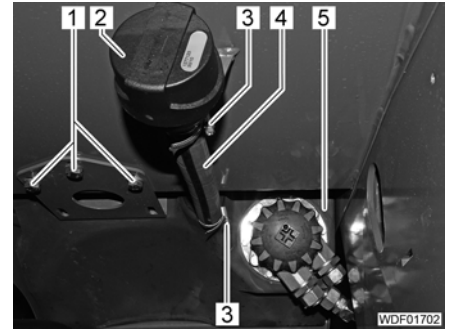

Fig. 331 Removal of the return filter
- Slacken 2 hose clamps (Fig. 331,3).
- Remove hydraulic hose (Fig. 331,4) from the hydraulic oil tank (Fig. 331,5) and from the ventilation filter (Fig. 331,2).
- Slacken 3 bolts (Fig. 331,1).
- Pull out hydraulic oil tank (Fig. 331,5) somewhat from the back.
- Push hydraulic oil tank (Fig. 331,5) to the front and align.
- Tighten 3 bolts (Fig. 331,1).
- Attach hydraulic hose (Fig. 331,4) with hose clamps to the connections on the hydraulic oil tank and on the ventilation filter (Fig. 331,2).
- Tighten 2 hose clamps (Fig. 331,3).